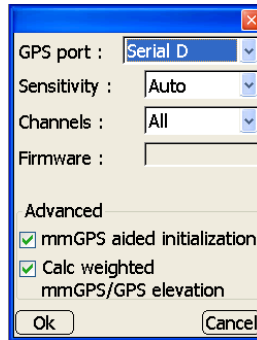

Figure 7-5. Select mmGPS Information
6. Select the following mmGPS parameters (Figure 7-5 on page 7-7):